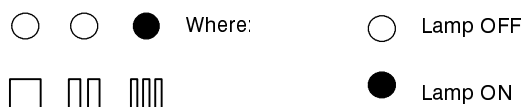

Fig. 39
- 8 Press the reset button C (1 time) until the lamps E give the indication as in Fig. 39 (boiler mode).